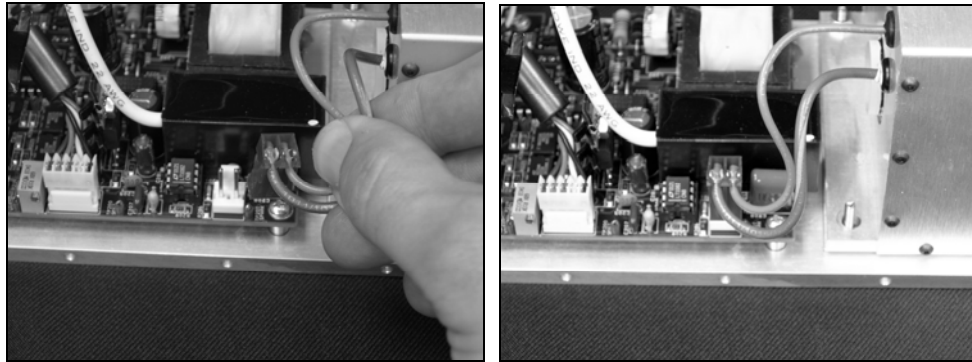

Figure 22. Reconnect ground and monitor line connector.
7. Connect ground and monitor line connector plug to the power supply board, as shown in Figure 22. Notice that both the cartridge connector and the circuit board header are polarized. Take care to ensure proper orientation of the cartridge connector.